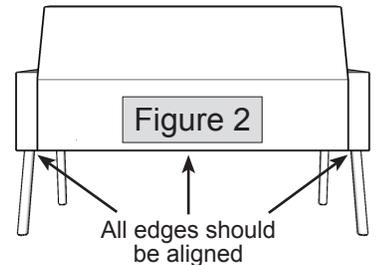

Figure 2
5. When properly connected, bottom edge of back cushion should align with bottom edges of arm frames, as shown in figure 2.
8. With all bolts connected but still loose, stand chair upright on a level surface. Align bottom edges of arm frames, back cushion and seat cushion, (similar to figure 2) and tighten all bolts securely.
5. When properly connected, bottom edge of back cushion should align with bottom edges of arm frames as shown in figure 2.
8. With all bolts connected but still loose, stand loveseat/sofa upright on a level surface. Align bottom edges of arm frames, back cushion and seat cushion, (similar to figure 2) and tighten all bolts securely.